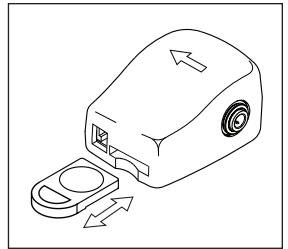

Figure 4
11. Remove the battery tray by sliding it out as shown in figure 4.